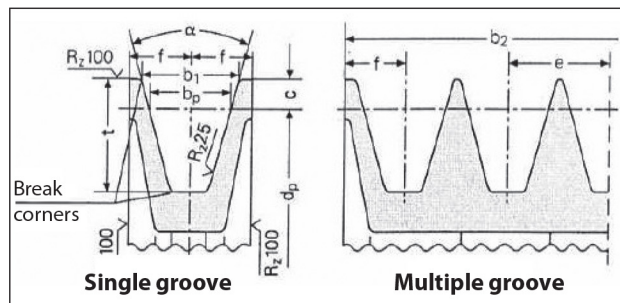

Fig. 8
- A) Use pulleys with V-belts with the size of the groove required/recommended by the manufacturer of belt used. In the absence of directions, follow Fig. 8 and the table in Fig. 9.